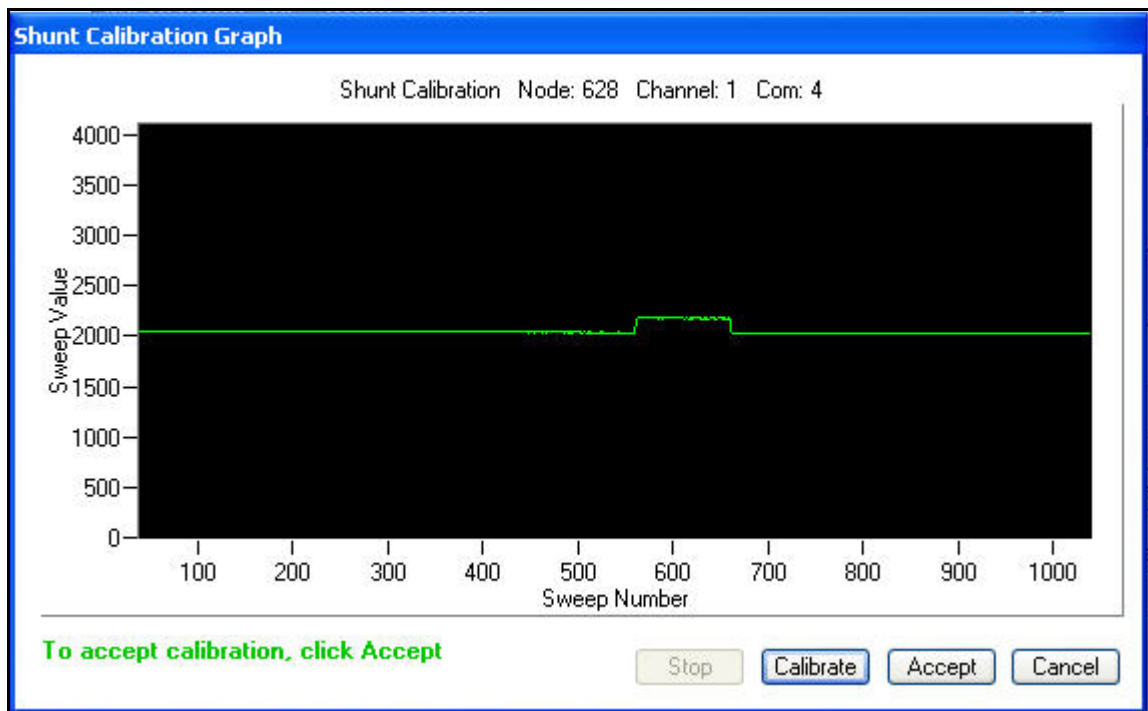

Figure 3
- The resultant graph will appear as exemplified in **Figure 3**.